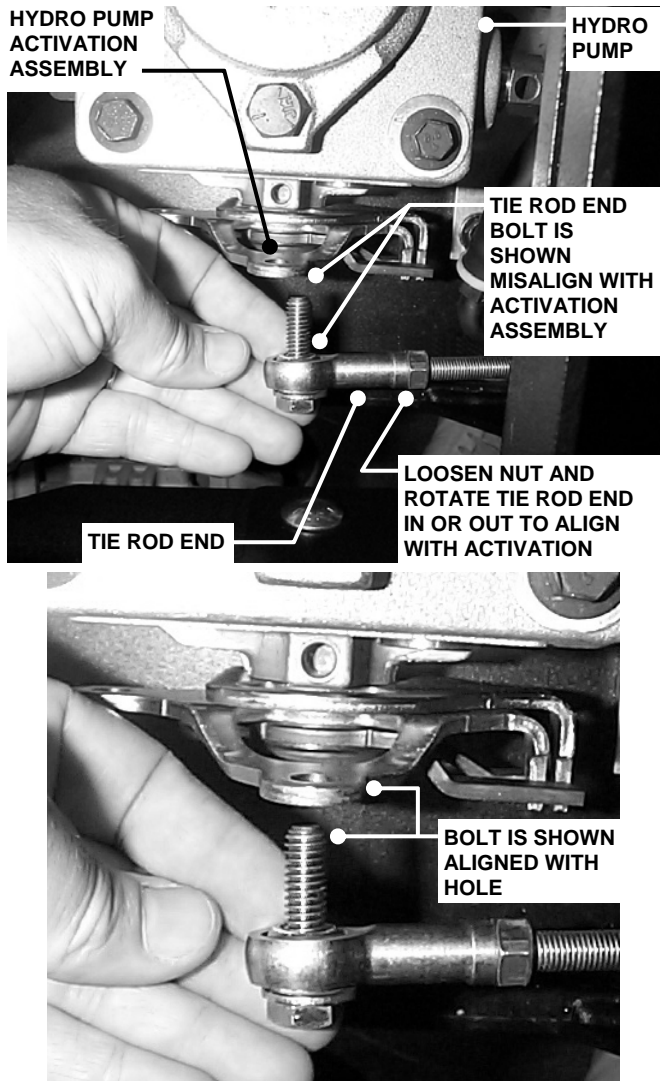

FIGURE 5.4
12. Move motion control lever to the neutral position and engage the parking brake, See Figure 3.7, hold connecting rod up to the activation assembly and check length of rod. Tie rod end bolt must align with the activation assembly. If bolt is not aligned with the activation assembly, adjust tie rod. Loosen jam nut that secures tie rod. Rotate tie rod in or out to align with hole in activation assembly. Repeat step for other hydro pump. See Figure 5.4.